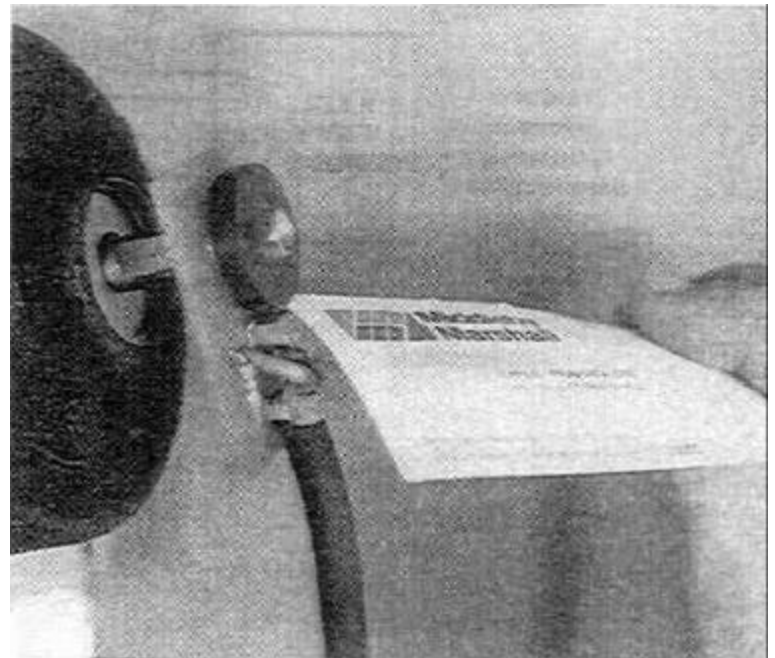

Figure 4. Old Style Pickup
- f. On old style pickup (see Figure 4) gap between magnet and Hall Device is spaced approximately 1/16" or a business card thickness.